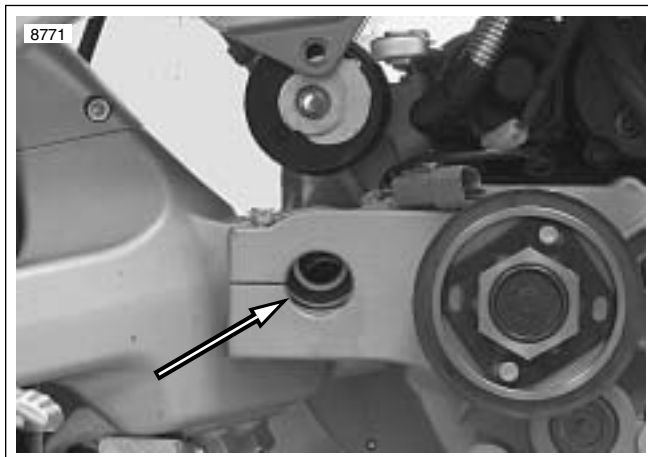

Figure 3-39. Aligning Swingarm to Crankcase for Pivot Shaft Installation (Typical)
3. See Figure 3-39. With engine on a flat scissor jack, raise engine and chassis until swingarm and rear isolator mount align and pivot shaft can be installed.